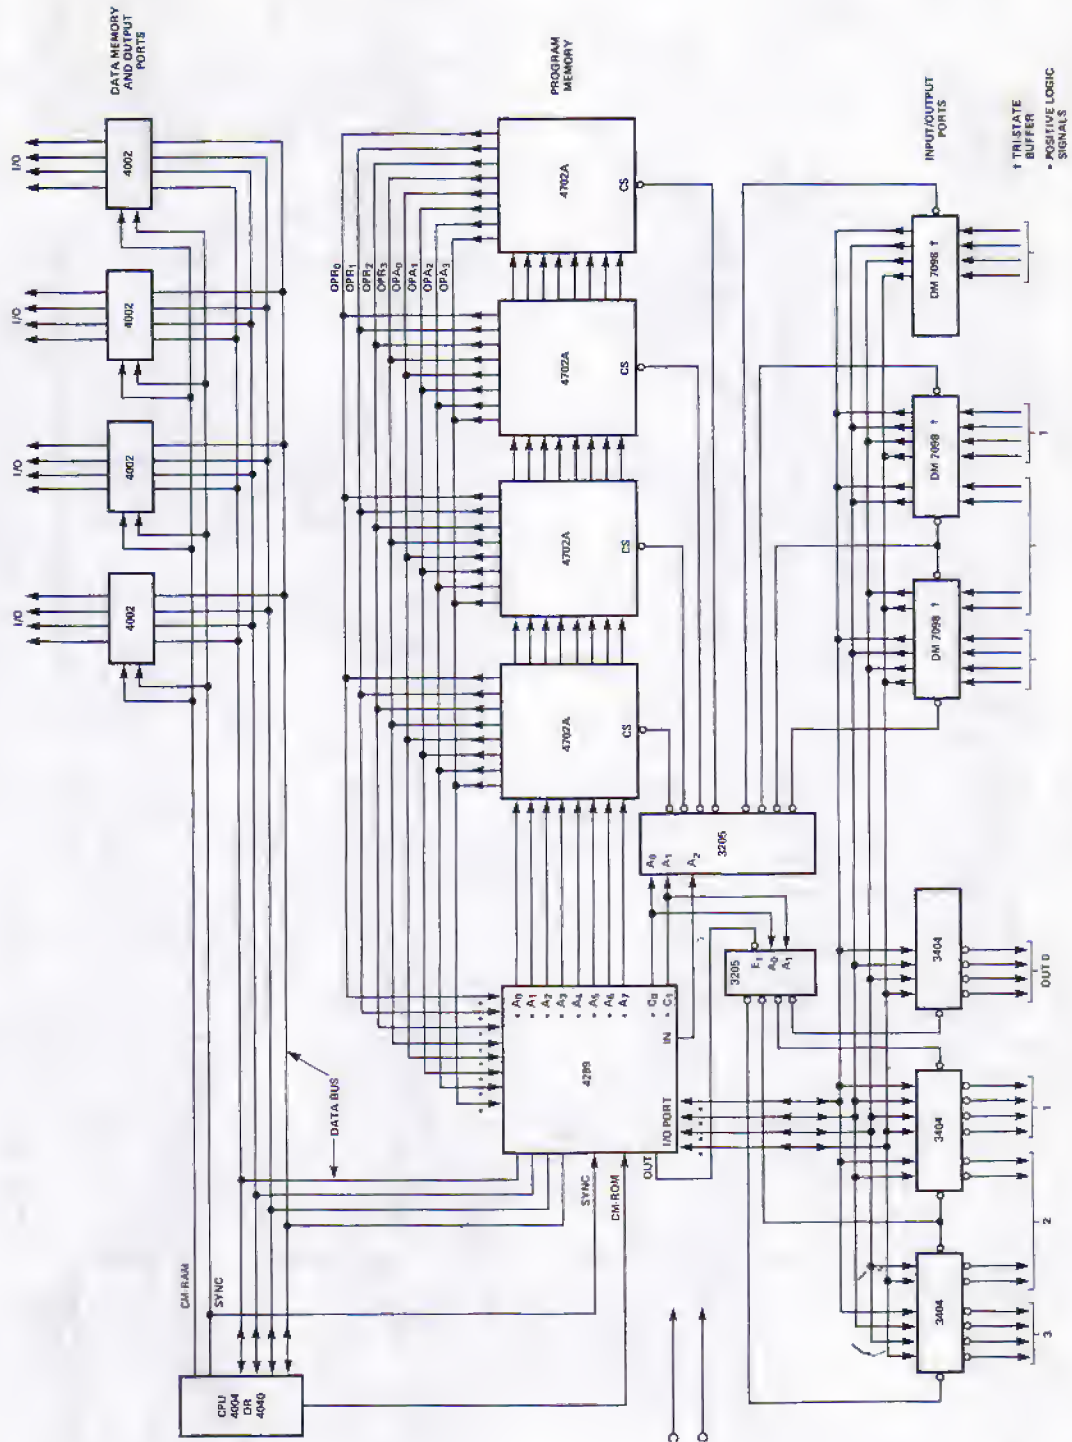

Figure 1. Basic PROM Memory System
1. Basic PROM Microcomputer System (Figure 1). This system contains: